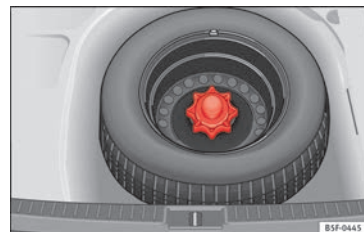

Fig. 181 Compact temporary spare wheel: raised floor panel.
- Lift and hold up the floor panel to remove the temporary spare wheel » **Fig. 181.**